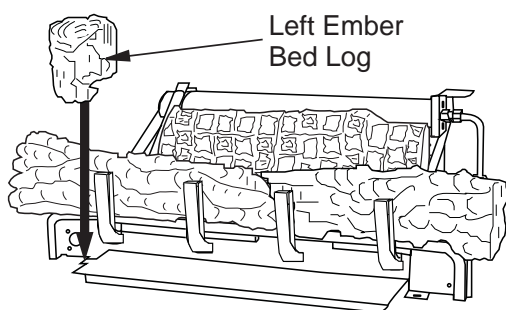

Figure 26 - Installing Left Ember Bed Log
4. Place left ember bed log (18" D-073, 24" & 30" D-048) as shown in **Figure 26**. The log has groove on one side that sets on the ember bed pan. The back side of this log needs to rest against the front of the base assembly. Make sure the flame from the ember pan does not touch the ember bed log.